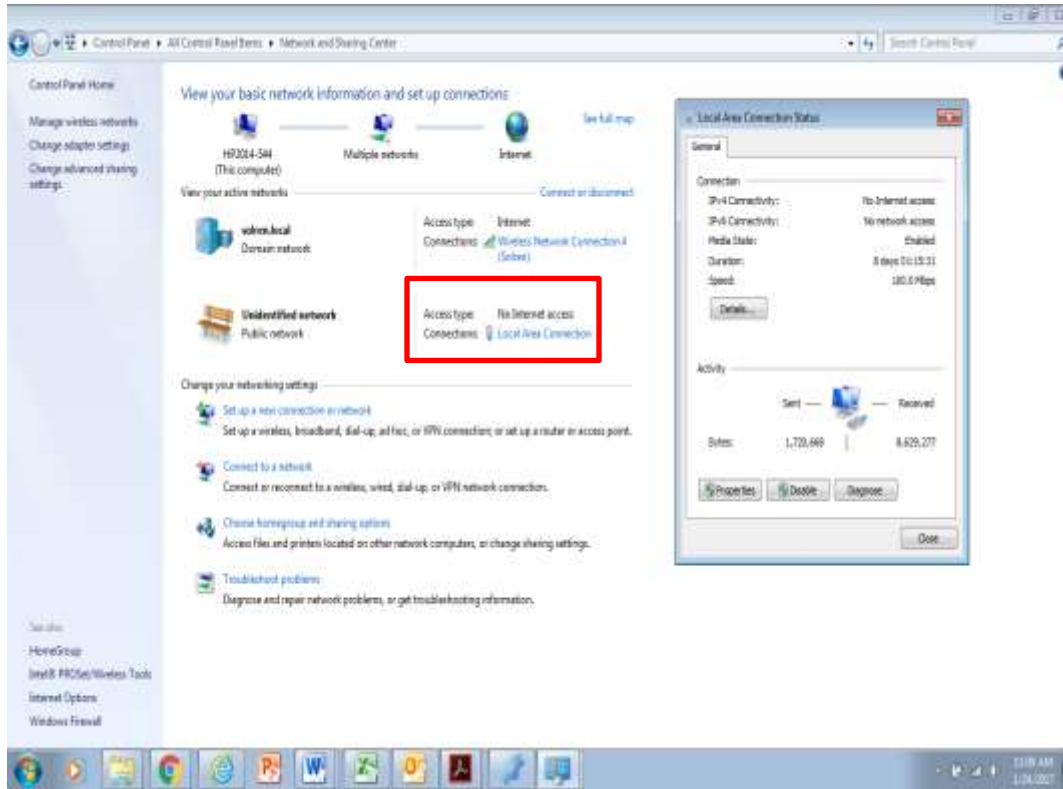

Figure 3-3: Opening the local network
- Click the “Configure” button and enter the configuration page, as shown in Figure 3-3